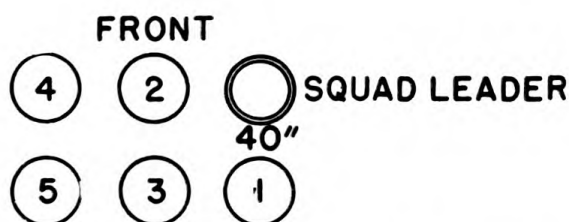

FIGURE 10.—Formation of machine-gun squad.
Q. What is the formation for the machine-gun squad? *A.* See figure 10.